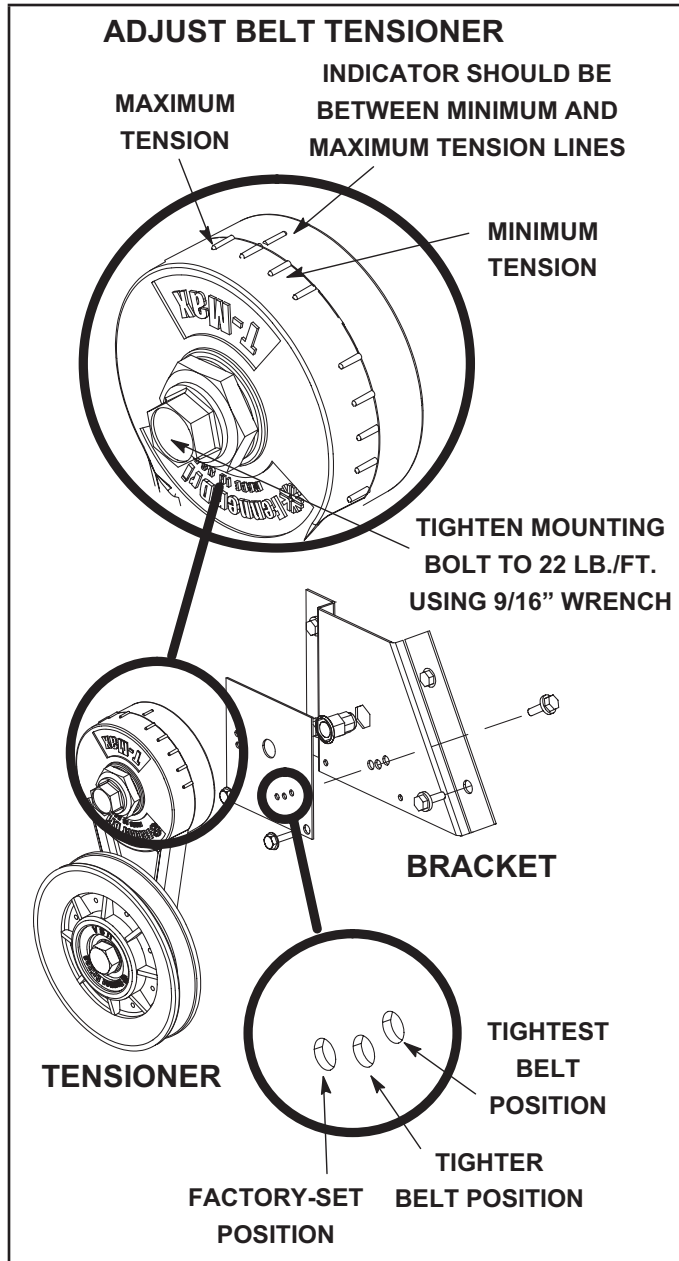

FIGURE 13
- 2 - Remove bracket from blower housing. See FIGURE 13.